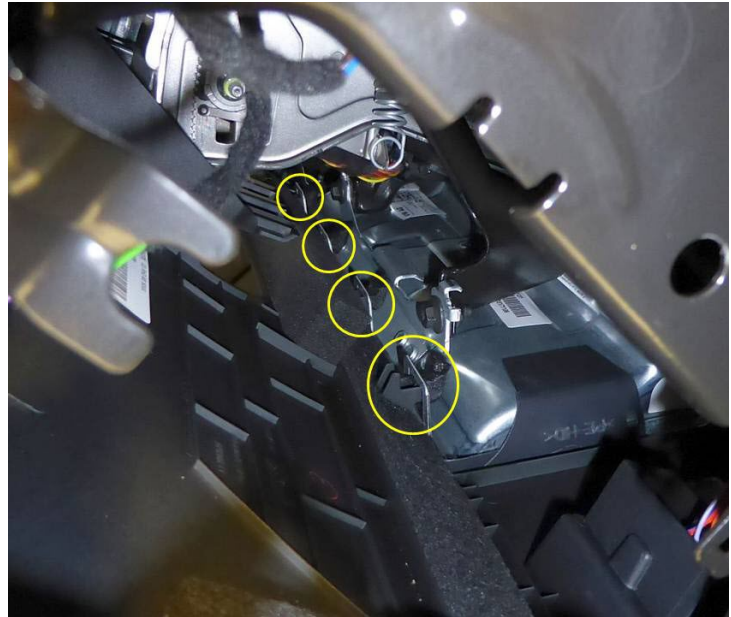

Figure 2. Four lower mounting hooks.
1. Wrap a layer of fleece adhesive tape D 373125A2 around the four lower mounting hooks as shown in the illustration (Figure 2).